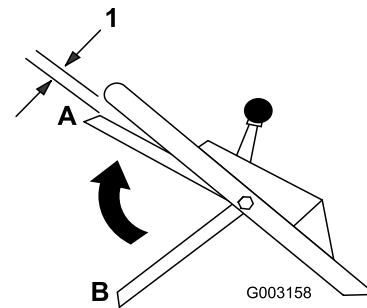

Figure 17
9. Lift the control bar up to about one inch (2.5 cm) below the handle; refer to position A in Figure 17.